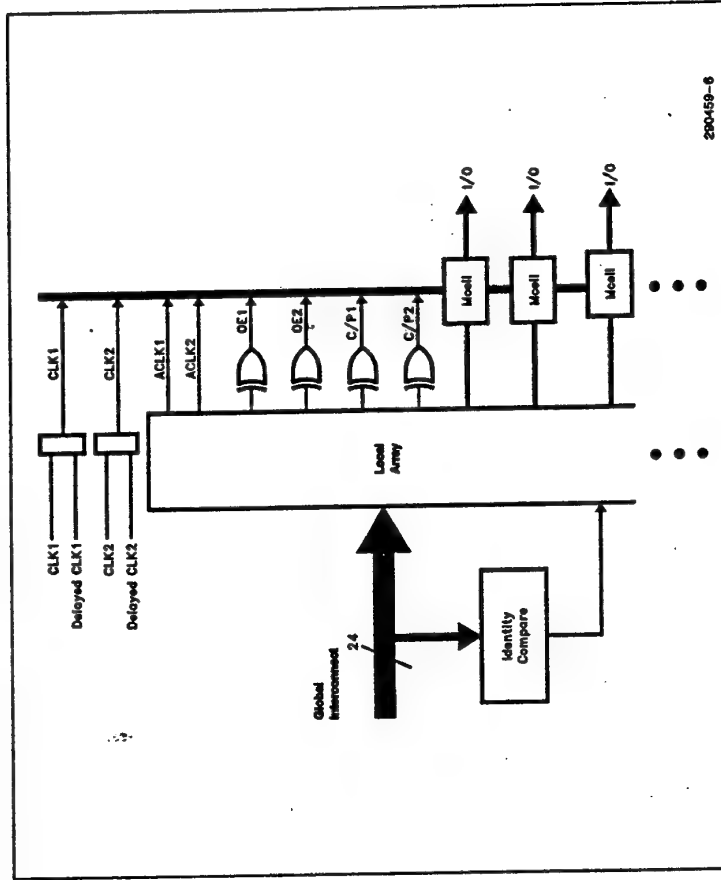

Figure 4. Control Signals
There are 4 control signals in each CFB in addition to the clocks (see Figure 4). These include two Output Enable (OE) signals, and two asynchronous Clear/Preset signals. Each control signal is generated by a single product term from the local 24V10 AND array with an inversion option. This allows multiple product term control equations to be implemented.